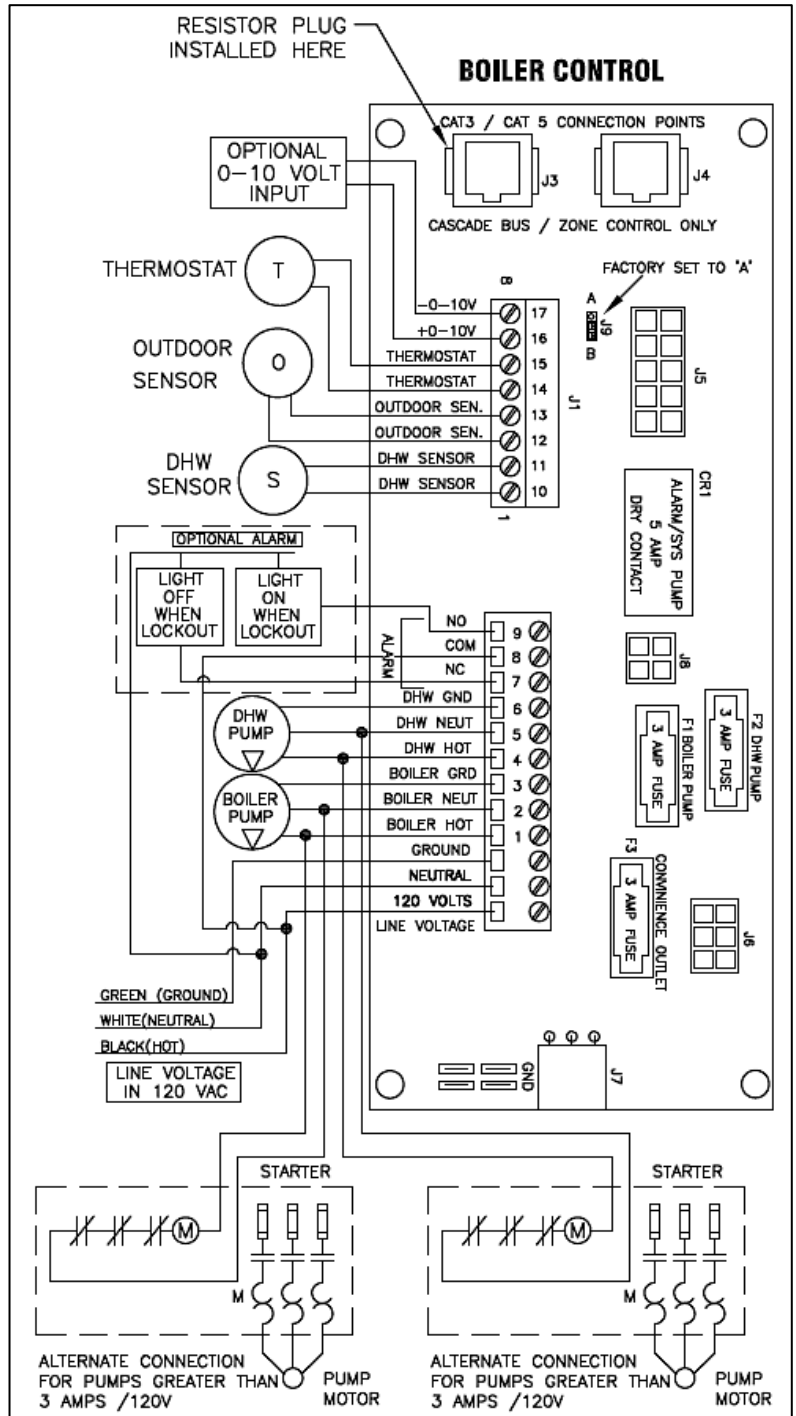

Figure 26 – LP-293-NN Elite Boiler Control
1. Connect 120V / 60Hz / 15 AMP incoming power wiring to the line voltage terminal strip in the electrical junction box at terminals 120V, Neutral, Ground (shown in Figure 26).
3. Connect the boiler pump as shown in Figure 26 to the terminals marked 1 – (HOT), 2 – (NEUT), and 3 – (GND). The connections shown are suitable for a maximum continuous pump draw of 3 amps at 120 volts. If the pump requires more current or voltage than the 120 volts supplied, an external motor starter or contactor will be required.
The control includes a dry contact alarm output. This is an SPDT circuit, rated at 5 amps at 120 volts. This contact can be used to activate an alarm light or bell or notify a building management system if the boiler goes into a lockout condition. The circuit between the ALARM COM and NC terminals is closed during normal operation and the circuit between ALARM COM and NO is open during normal operation. The connections depicted in Figure 26 show two 120 volt lights connected to the alarm terminals. One light will be on when the boiler is in normal mode and the other light will be on when the boiler is in lockout mode.
1. Connect the room thermostat to the terminals marked THERMOSTAT in the electrical junction box (see Figure 26). Alternately, any dry contact closure across these terminals will cause the boiler to run. Take caution to ensure neither of the terminals becomes connected to ground.
2. Connect the indirect sensor (7250P-325) to the terminals marked DHW SENSOR (shown in Figure 26) in the electrical junction box.
2. Connect a building management system or other auxiliary control signal to the terminals marked 16, 0-10 VOLT + and 17, 0-10 VOLT – in the electrical junction box (shown in Figure 26). Caution should be used to ensure that the 0-10 VOLT + connection does not become connected to ground.
3. Move jumper on connection board (shown in Figure 26) from A to B.